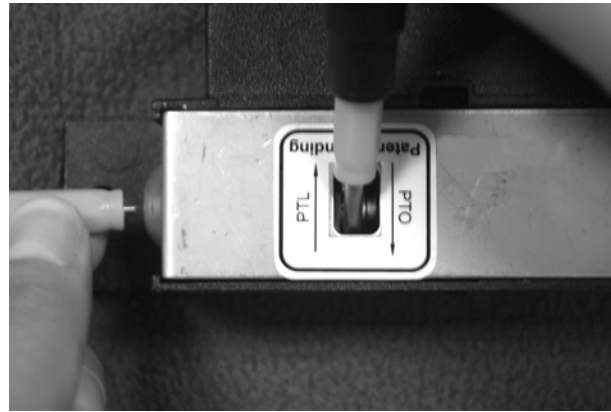

Figure6
- Step 3: Insert the "tool pin" through the cover end opening hole and operate the solenoid hold it in position and at the same time insert the "tool" thru the cover plate opening hole and turn the capstan gear in the direction of the release screw to the stop. See (Figure 6).